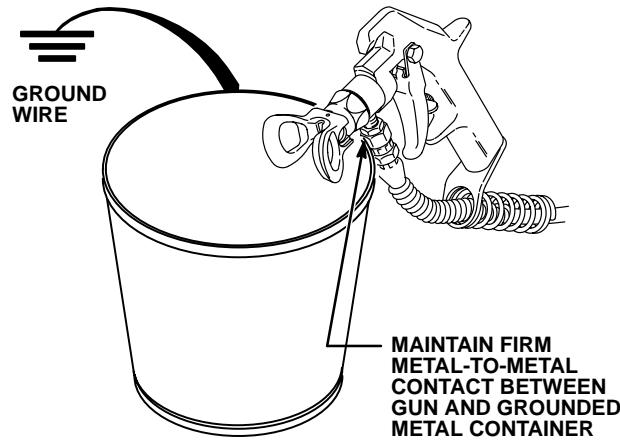

Fig 14-2
6. Disengage the trigger safety latch. Point the gun into a grounded metal waste container. With metal part of the gun firmly touching the metal container, squeeze the gun trigger. See Fig 14-2. This procedure reduces the risk of static sparking and splashing. Start the sprayer, trigger the gun, and slowly turn the pressure adjusting knob clockwise just until the pump starts. Keep the gun triggered until clean solvent comes from the nozzle. Release the trigger and engage the trigger safety latch.